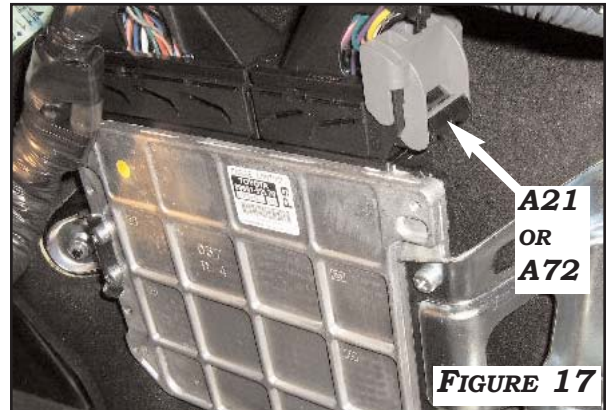

FIGURE 17
2. LOCATE BLACK ECM CONNECTOR **A21** OR (**A72 12 YARIS HATCH BACK**) IN THE ENGINE COMPARTMENT ON THE PASSENGER SIDE FIREWALL. **FIGURE 17** REMOVE CONNECTOR AND WIRE COVER. **BE SURE TO PULL OUT TERMINAL RETAINER AT THE CENTER OF CONNECTOR WITH PRECISION TOOL. FIGURE 18** LOCATE BLACK CRUISE ECM HARNESS IN SACK PART. INSERT TERMINAL WITH PURPLE SEAL INTO PIN **40** OR PIN **60** FOR **12 YARIS HB**(CRUISE CIRCUIT) OF CONNECTOR **A21** OR **A72**. IF BLUE OR GREEN WIRE IS PRESENT, **CUT OFF TERMINAL END WITH PURPLE SEAL**. CONNECT BLACK CRUISE ECM WIRE TO **BLUE WIRE PIN 40** OR **GREEN WIRE IN PIN 60**(CRUISE CIRCUIT) OF CONNECTOR **A21** OR **A72**. **FIGURES 19-20**